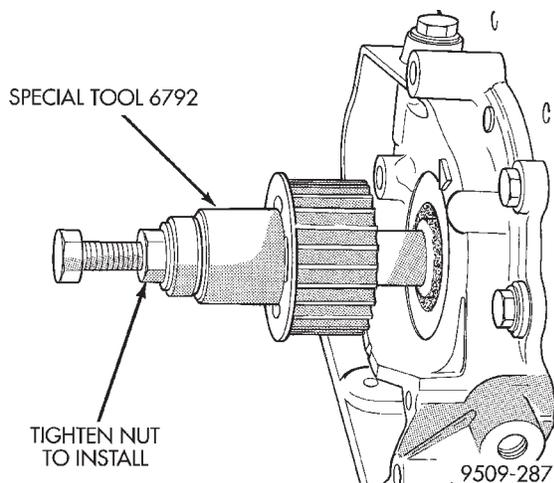

Fig. 74 Crankshaft Sprocket—Installation
(7) Install crankshaft sprocket, using Special Tool 6792 (Fig. 74).
(8) Install oil pump pick-up tube and oil pan.
(9) Install Timing Belt. Refer to procedure outlined in this section.
(10) Connect negative cable to battery.